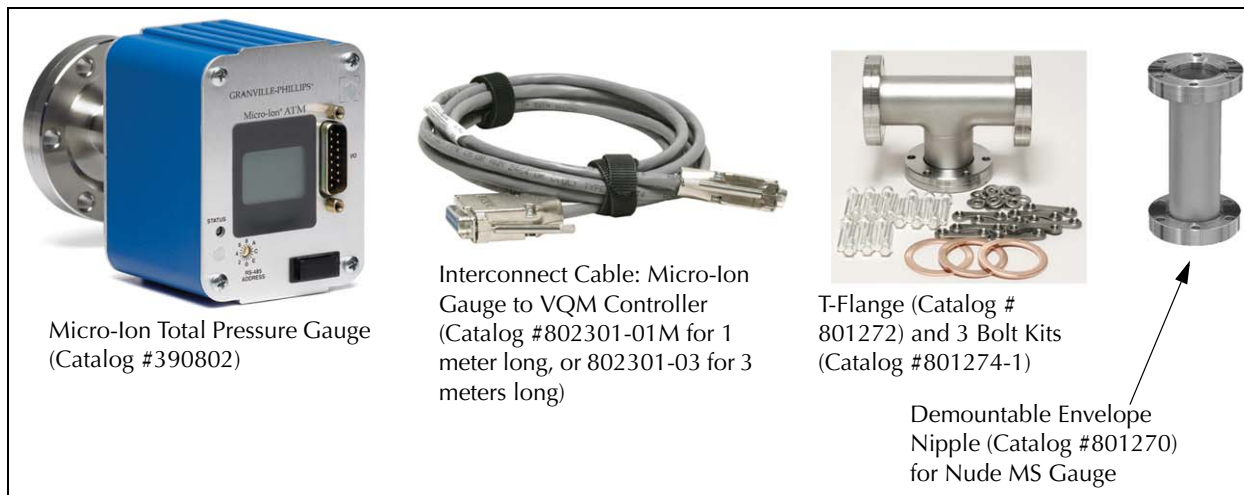

Figure 3-2 Optional Components of the Vacuum Quality Monitor System
Micro-Ion Gauge	The Series 390802 Micro-Ion ATM Total Pressure Measurement Gauge. See Figure 2-3, Figure 3-2, and Figure 3-6. Separate instruction manuals (p/n 390001 & p/n 390015) are provided with the Micro-Ion Gauge.
T-Flange	An optional mounting flange for the purpose of mounting the MS Gauge and the Micro-Ion Gauge at the same port on the vacuum chamber. See Figure 2-3 and Figure 3-2.
3.3.2.2 Optional Equipment - See Figure 3-2